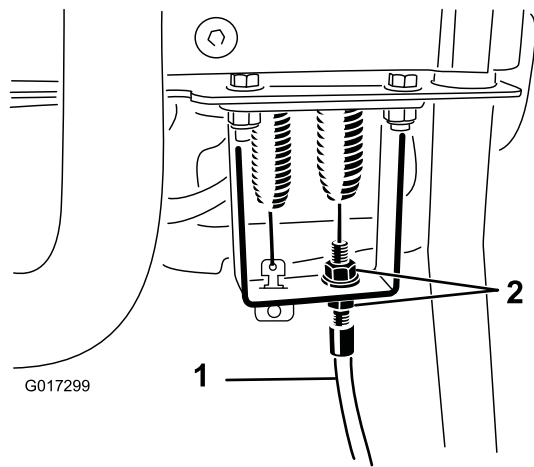

Figure 46
4. At the control handle bulkhead, loosen the reel control cable until there is slack in the cable (Figure 46).